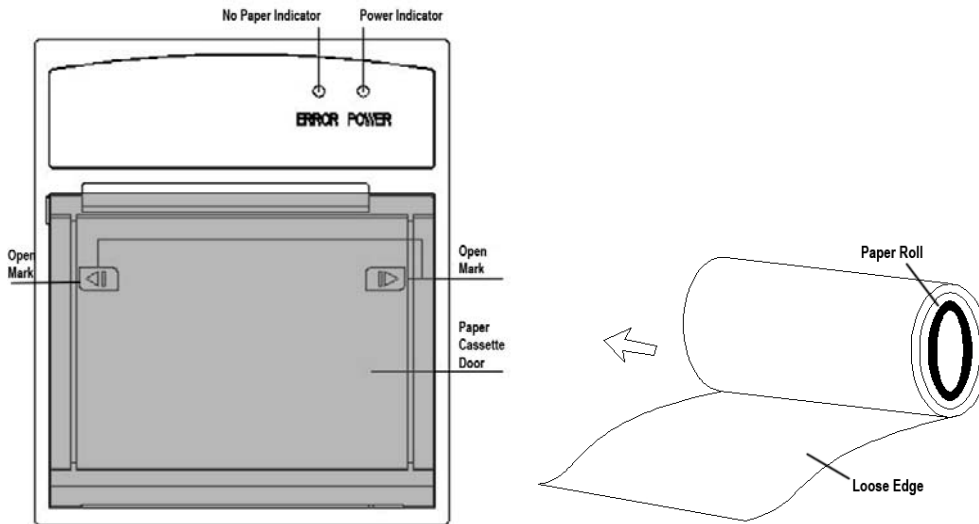

Fig.6-6
(2) Paper replacement
- ① From the position with Open Mark pull the paper cassette door towards you until it is completely open. Refer to Fig.6-6.
- ② Remove the spent paper core.
- ③ Place a new roll of paper into the paper cassette with a few inches of paper being unrolled. Ensure proper orientation of paper roll.
- ④ Close the paper cassette door with a few inches of paper being kept outside of the door.